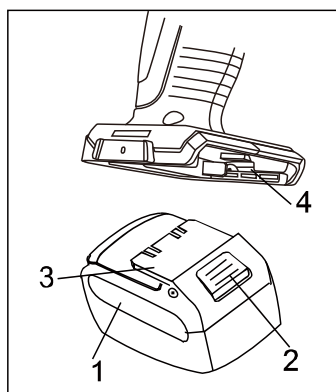

Fig.1
Insert the battery pack (1) until it locks into place (Fig. 1).